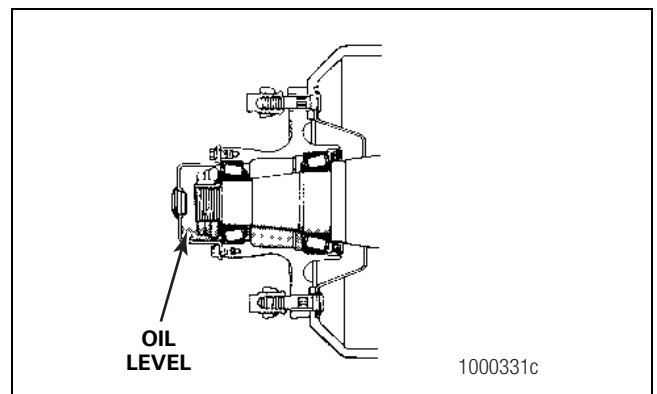

Figure 6.37
2. Add the specified oil until the oil is at the specified level. Figure 6.37.